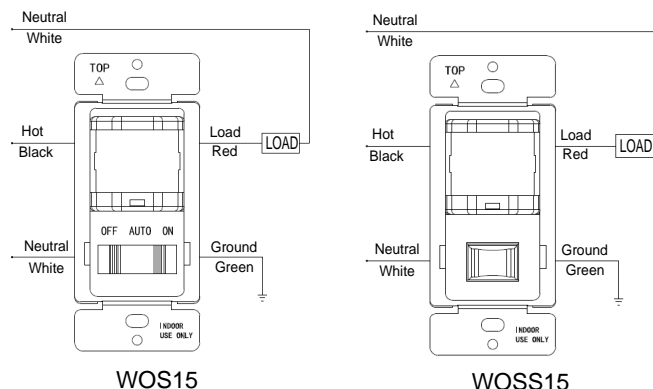

Figure 2
1. Connect lead wires as WIRING DIAGRAM (see Figure 2): Black lead to Hot wire, Red lead to Load wire, White lead to Neutral wire, and Green lead to Ground wire.